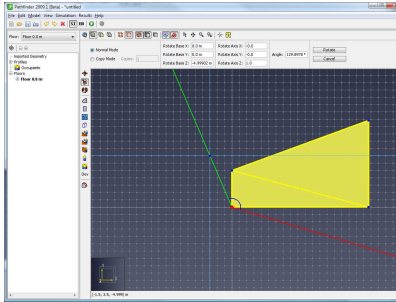

Figure 136. Reference line (red) and rotation angle (green)
- The second defines a reference vector extending from the rotation base (Figure 136).